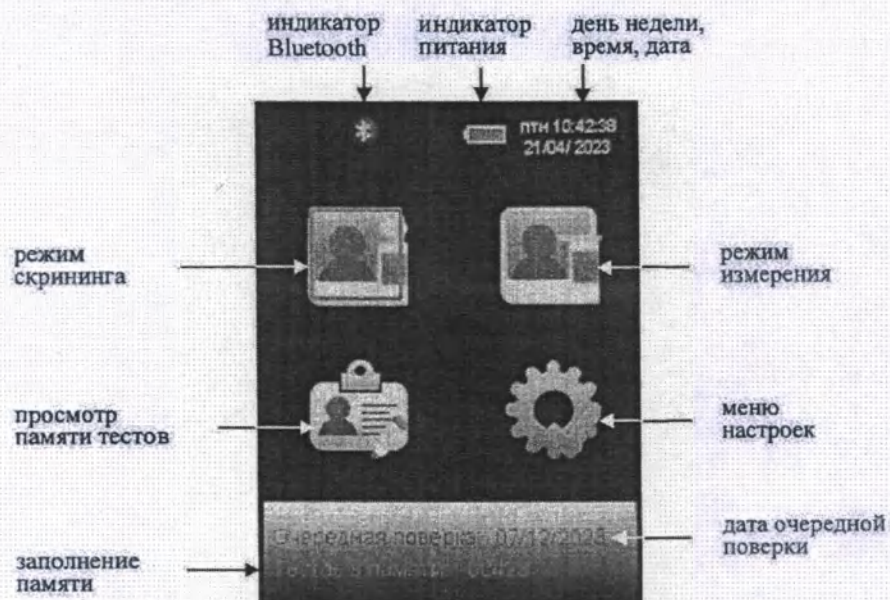
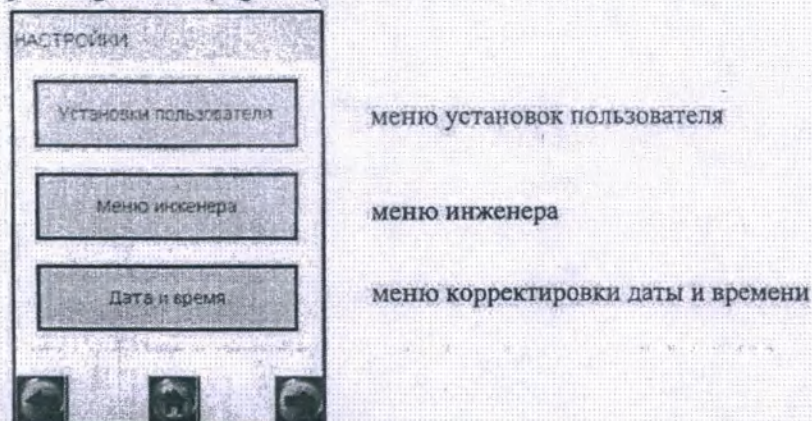
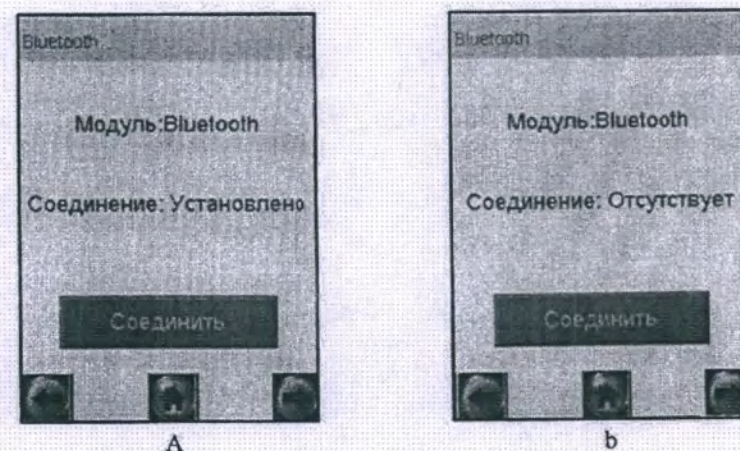
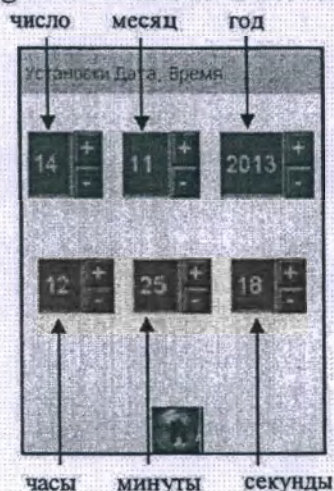

Figure 5 – Main menu of the analyzer
Figure 6 – Settings menu
Figure 10 – Bluetooth window (possible options)
Figure 11 – Setting the date and time
2.2.1 The analyzer is turned on by pressing the button on/off, holding it until the sound signal (about 3 seconds). In this case, a splash screen appears on the screen with the abbreviated designation of the analyzer and the software version number, autotesting is carried out , after which the main menu of the analyzer appears on the screen (Figure 5).
2.3.1 The main menu of the analyzer consists of 4 icons and indicators that inform about the supply voltage level, current time and date, connection with a thermal printer (or external device) via Bluetooth, the main menu also displays the date of the next verification and information about memory fullness (Figure 5).
(Figure 5), select the icon item . The "SETTINGS" menu will appear on the touch screen, consisting of three items intended to go to the corresponding menus (Figure 6).
2.5.8.1 Go to the “User Settings” menu (according to 2.5.4 of this manual), then click on the “Bluetooth” button (Figure 6). The “Bluetooth” window will appear on the screen (Figure 10).
- “**Connection: Established**” – if there is a connection with a thermal printer or external device via Bluetooth (Figure 10, a);
- “**Connection: No**” – if there is no connection with a thermal printer or external device via Bluetooth (Figure 10, b).
2.5.8.3 To establish a connection (pairing) of the analyzer with a thermal printer, turn on the thermal printer by long (for 2-3 seconds) pressing the on / off button on the thermal printer, and the on / off button indicator light will light up. In the “Bluetooth” window, click the “**Connect**” button, after a few seconds the connection status will change to “**Established**” (Figure 10, a), otherwise click the “**Connect**” button again.
To adjust the current date and time in the analyzer, enter the settings menu (according to 2.5.2 of this manual). Click on the “Date and Time” button (Figure 6) – the “Date, Time Settings” window will appear on the screen (Figure 11).
You can also enter the “Date, Time Settings” window by clicking on the area in the upper right corner of the screen in the main menu of the analyzer, where the current date and time are displayed (Figure 5).